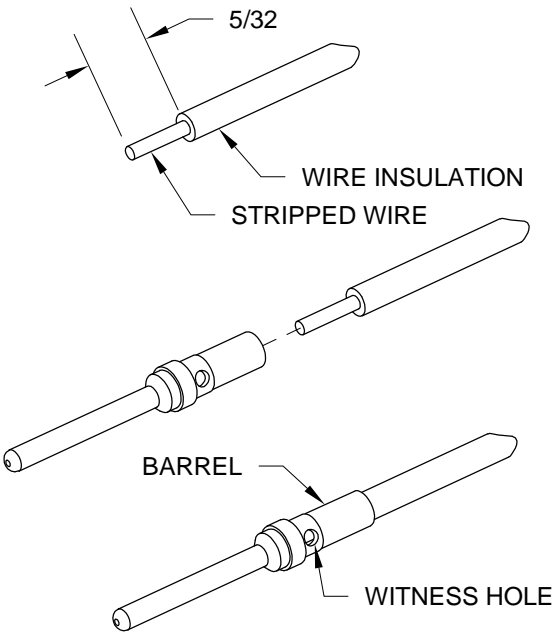

FIGURE 2: SOLDER WIRE TO PIN
Step 1: Strip wire back per the dimension in Figure 2.